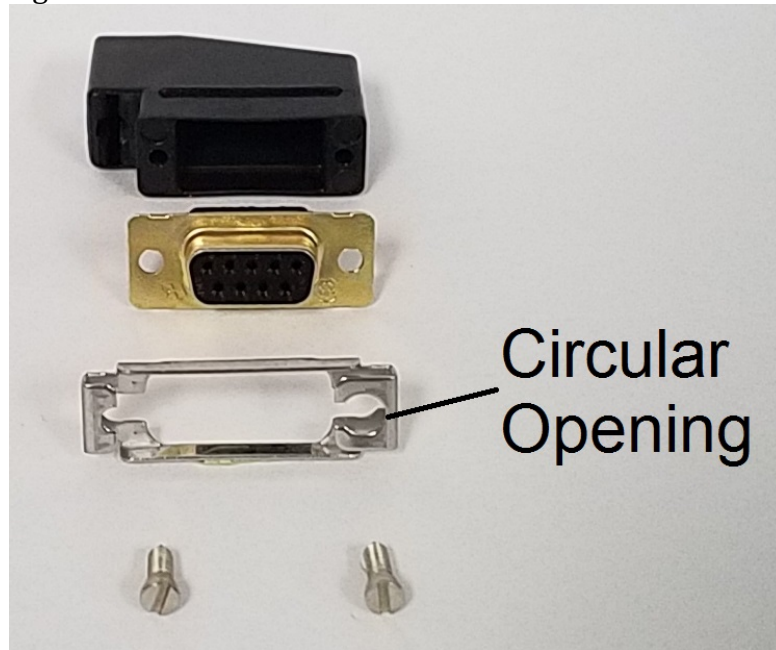

Figure 3-4
5.1. The roll servo connector backshell and slidlock should be assembled as shown in Figure 3-4.